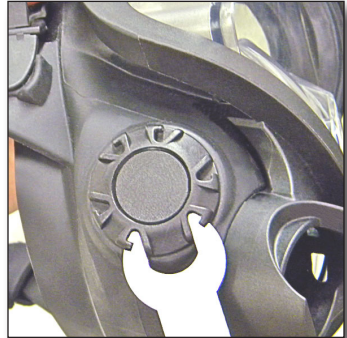

Figure 11: The Blanking Plug
If the Stealth FFM was purchased without communications equipment, there will be a blanking plug installed in the communications port. This consists of a plug on the inside (of the mask) secured with a threaded, locking ring on the outside (Figure 11). To remove, use the OTS wrench (P/N 137053-000) to unscrew the locking ring counterclockwise and remove the plug from the inside.
1. Locate the communications port on the right side of the mask. Unscrew (counterclockwise) the fastening nut from the plug using OTS wrench. Remove the plug and store for possible future use (Figure 11 on page 12).